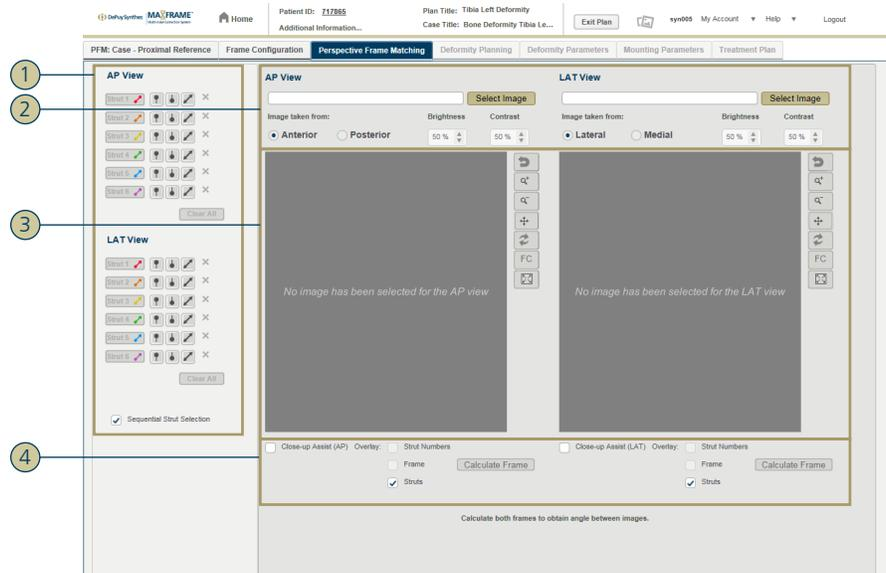

Figure 68 – PFM—Overview
- Click the **Select** button of the desired AP image. The **Select AP Images** dialog closes and the selected AP x-ray image is displayed in the AP view. The image file name is displayed to provide confirmation that your selected image is correct. The strut and hinges selection buttons (cf. [1] in figure 68 on page 63 for the AP view) are enabled.